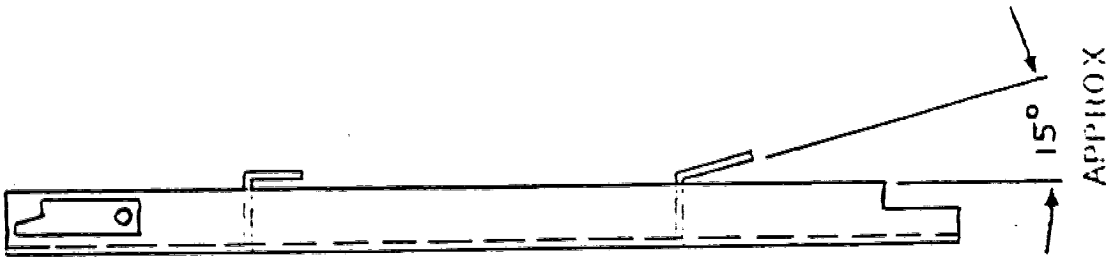

Fig. 1
1. The lower tab on the left and right can dividers must be bent at approximately 15°, as shown in Fig. 1. to allow for the additional metal thickness of the 10 oz. can shim.